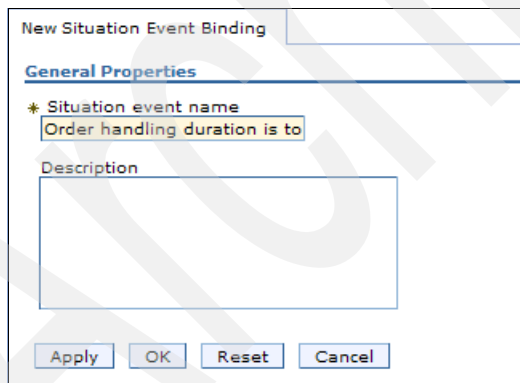

Figure 5-86 Creating a new situation event binding
4. Under New Situation Event Binding (Figure 5-86), for Situation event name, type Order handling duration is too long.